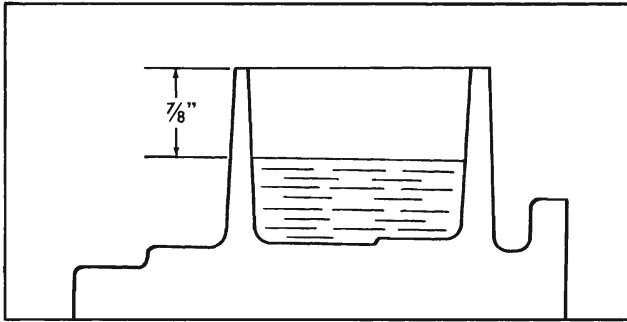

Fig. 5-5 Correct Level in Master Cylinder
4. When bleeding operation is completed, refill reservoir to within $\frac{7}{8}$ " of top of master cylinder filler neck gasket surface (Fig. 5-5) and then replace filler cap.